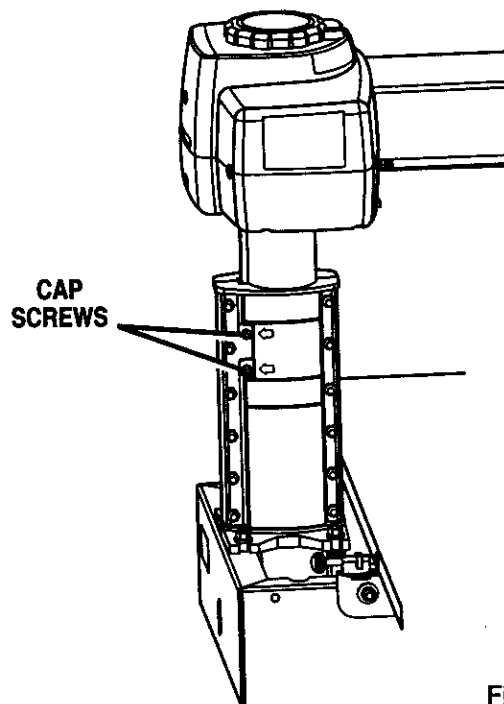

Fig. 20D
- **Rotation Adjustment:** Using a 3/16 in. hex key, slightly tighten the two cap screws at the back of the column support (left side) until no play shows between the radial arm and the column. The cap screws are indicated by arrows. See *Figure 20D*.